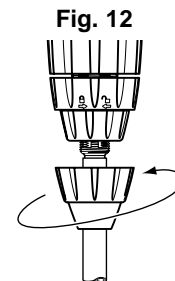

Fig. 12
- Push the tube onto the barbed fitting as far as it will go and screw up the nut by hand (**Fig. 12**).